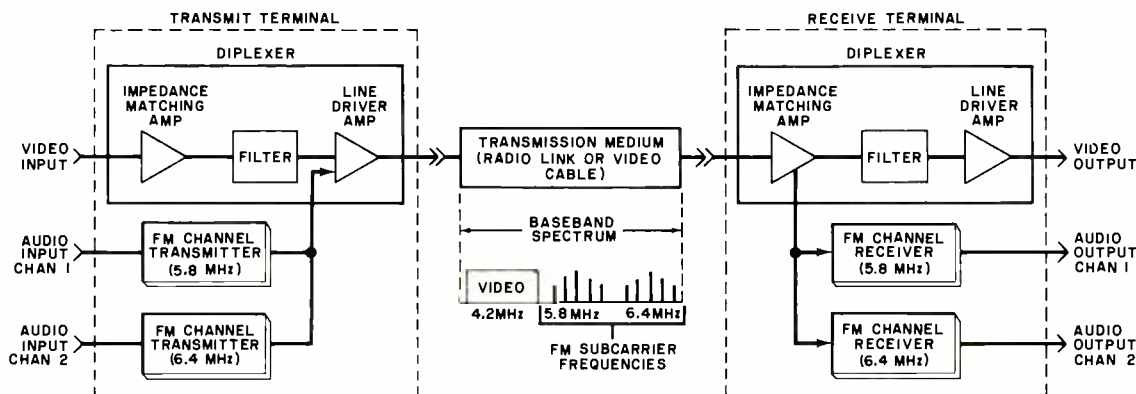

Fig. 2. Block diagram of the FV-43 FM Transmission Channel System.
**How It Works.** A block diagram of the FV-43 FM Transmission Channel System is shown in Fig. 2. It provides transmission facilities for one or two high-quality audio channels, positioned immediately above the standard video baseband—channel 1 at 5.8 MHz and channel 2 at 6.4 MHz. These channels provide low-noise, low-distortion, and wide-bandwidth audio program facilities that can be transmitted simultaneously with a video signal. Each requires an FM